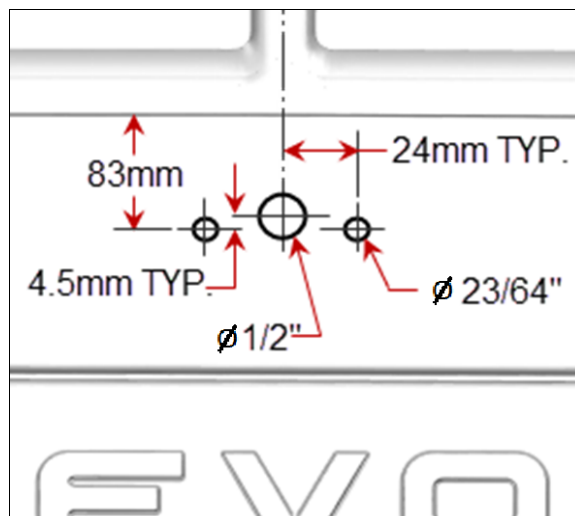

Figure 2
2. Drill 3 holes in front of the vehicle as shown in Figure 2. Predrill $\varnothing 3/16"$.